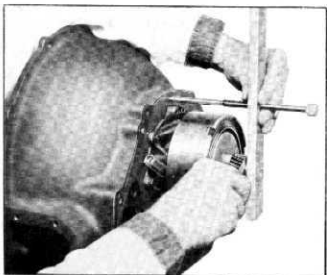

Fig. 128—Checking for Proper Low to Reverse Sun Gear Clearance
- d. Select the .120" steel washer furnished with the tool and place it over the pilot of tool. Insert pilot into bore of low sun gear and while holding tool securely, check clearance between end of low sun gear and steel washer with feeler gauge (fig. 128). This clearance should be .007"-.035".